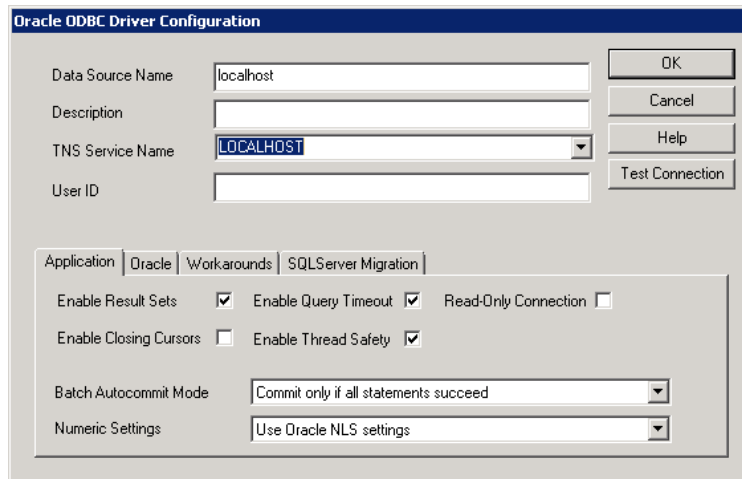

Figure 52. Oracle ODBC Driver Configuration Dialog Box
4. Select `Oracle in OraDb11g_ADVA` and click **Finish**. This launches the Oracle ODBC Driver Configuration dialog box (Figure 52).
5. Set the Data Source Name and TNS Service Name fields to **localhost**, as shown in Figure 52.